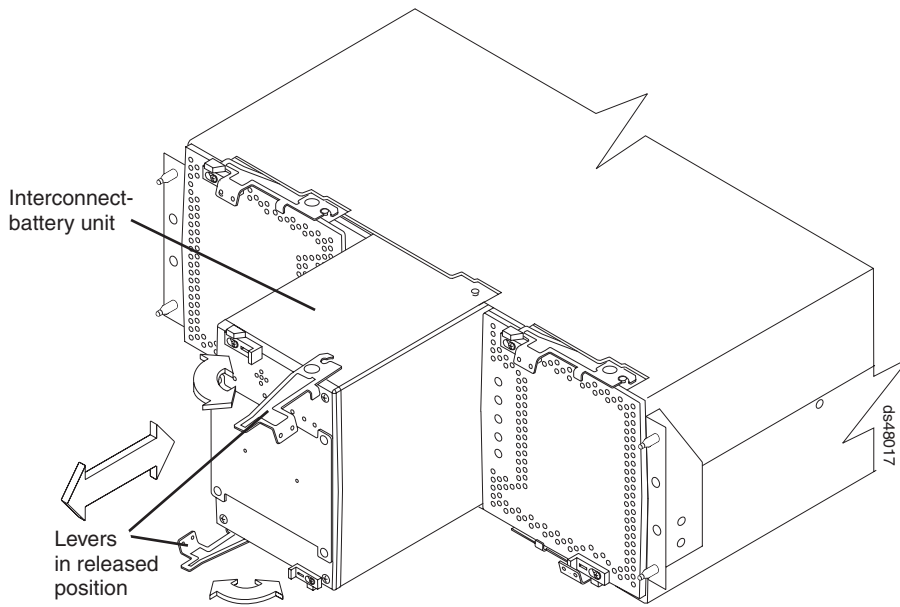

Figure 22. Replacing the interconnect-battery unit
2. Replace the interconnect-battery unit. Figure 22 on page 44 shows the location of the interconnect-battery unit and the interconnect-battery unit levers. The interconnect-battery unit is keyed to always fit into the enclosure in the proper orientation. A large pin located on the back of the component prevents the component from being installed incorrectly. Before installing the component, turn the component so that the LEDs are near the top of the component.